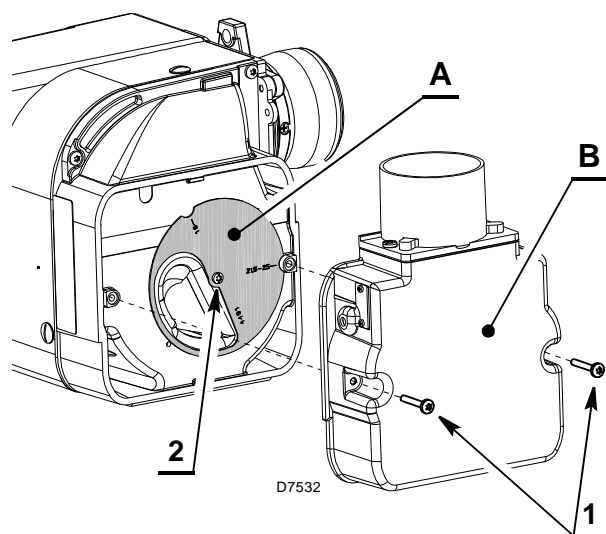
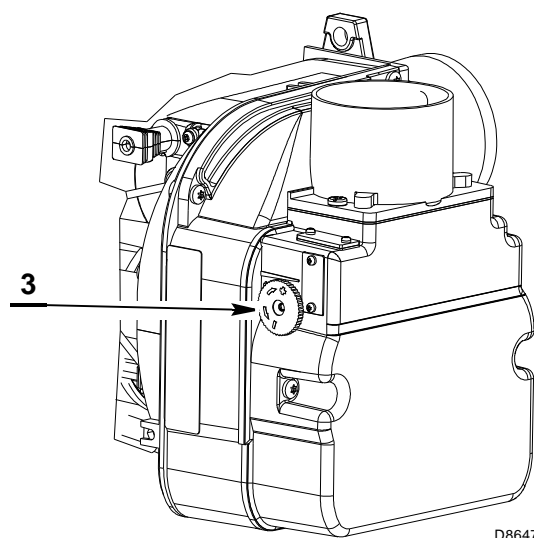

Fig. 21
Fig. 22
The air setting is performed by mean of two independent dampers (see Fig. 21 and Fig. 22).
- remove the secondary air damper B)(Fig. 21) loosening the screws 1).
Tuning of this device is possible acting of the screw 3)(Fig. 22).